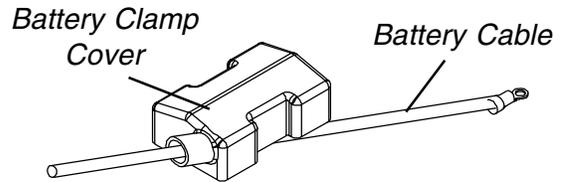

FIGURE 5 - CONNECTING BATTERY CABLES - BATTERY CLAMP METHOD
The battery clamp of the POSITIVE (+) battery terminal/post MUST be mounted in the position shown in FIGURE 5, otherwise the battery box top cannot be installed properly.
1. Perform one (1) of the following:
- A. If the battery clamp of the POSITIVE (+) battery terminal/post is **NOT** mounted in the orientation shown in FIGURE 5, perform the following:
2. Install battery clamp covers onto battery cables as follows (FIGURE 5):
*NOTE: Only one (1) battery cable and battery clamp cover are shown for clarity. Both battery clamp covers install in the same manner.*